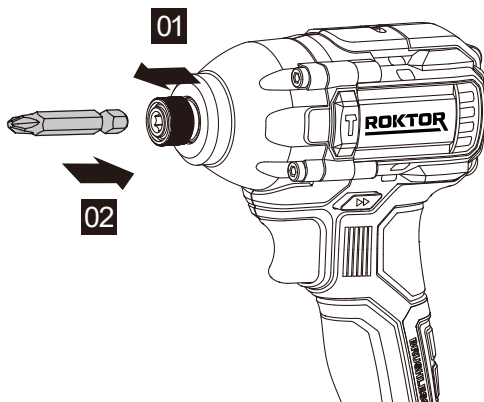

Figure 3-1
3. INSERTING AND REMOVING THE BIT (NOT SUPPLIED) (SEE FIG. 3-1 & 3-2)